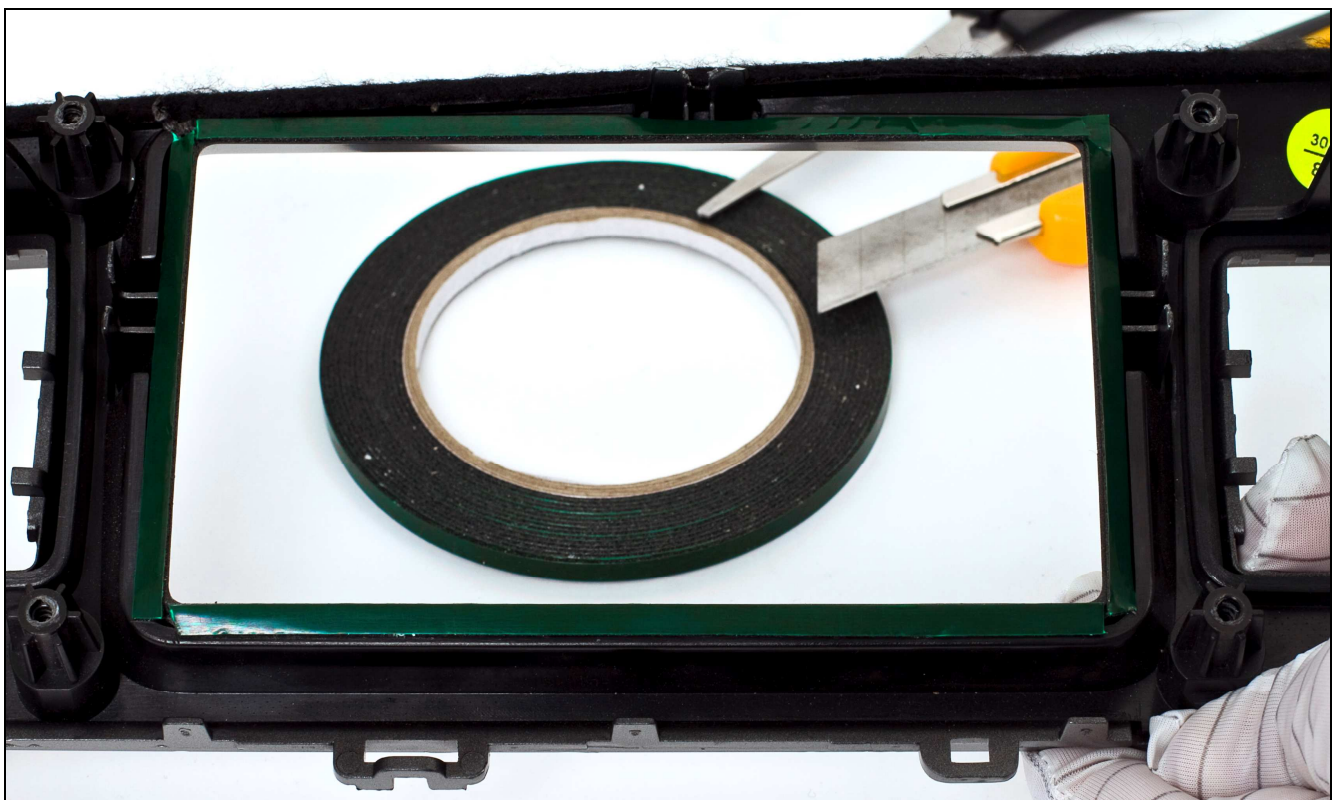

Figure 9
5. Perform a visual inspection and determine the possibility to attach the touch pad to the display or the plastic frame. In this example we chose to attach the touch pad to the plastic frame using a double-sided foam tape (**Fig. 9**). Degrease the surface before using the tape.